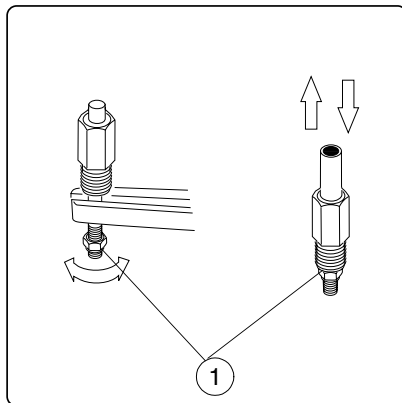

Figure F.34
- d) If the space differs from  $4.5 \pm 0.5$  mm, adjust the magnet holder's nut (Fig. F.34, 1) so that the right space is reached: